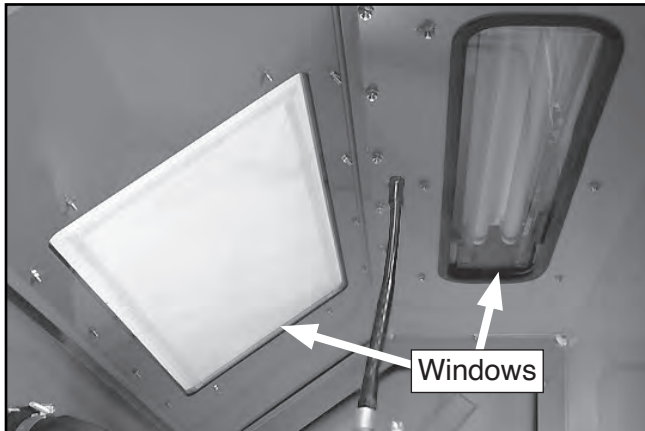

Figure 22. Location of windows.
9. Inspect windows (see **Figure 22**) for clarity and for any evidence of damage to protective film. Peel off worn/damaged films and replace BEFORE they are worn through. If using aggressive media, you may have to double sheets to protect from wear-through before blasting project is finished. Only clean windows using method described in **Cleaning** on **Page 30**. If visibility becomes a problem, refer to **Troubleshooting** on **Page 31** for further solutions.